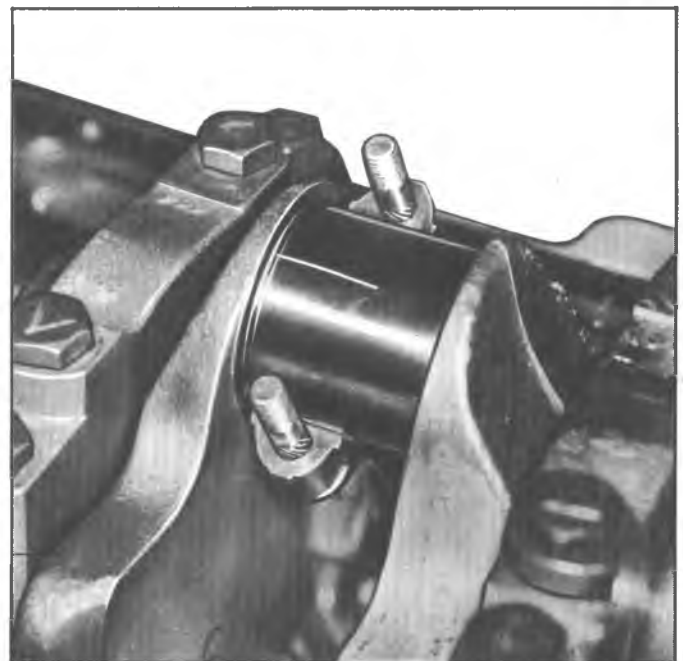

Fig. 43—Gauging Plastic on Crankpin
- a. Place a piece of gauging plastic the full width of the crankpin as contacted by the bearing (parallel to the crankshaft) (fig. 43).